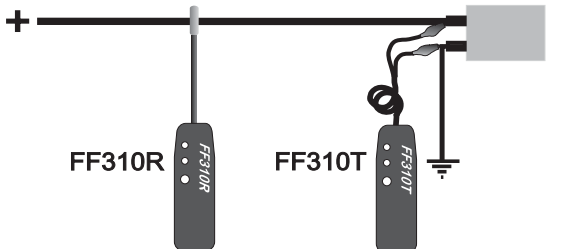

Fig.5 - Set up for upstream tracing of open circuits or location of wires
- **Tracing wires upstream** (from load to supply): If more convenient, wires can also be traced the other way around, by replacing the load with the FF310T (Fig. 5 of Hook Up reference chart). To do this, first remove power from the circuit, disconnect the load and connect the FF310T in its place. Apply power to the circuit and follow instructions in section **6 – Locating Short Circuits**.